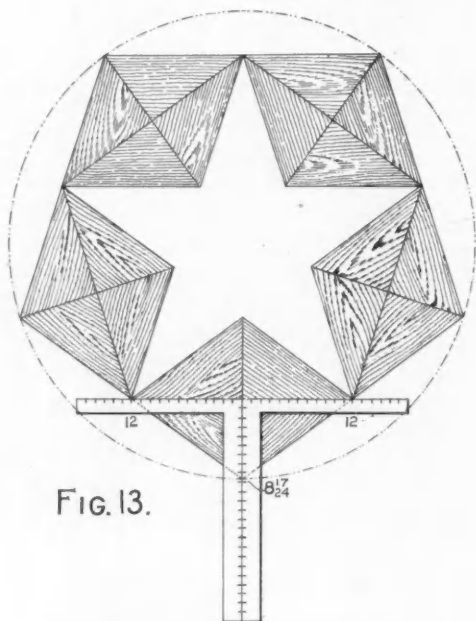
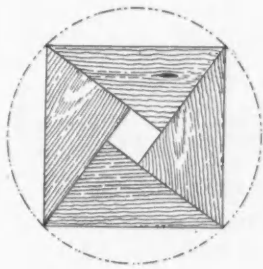
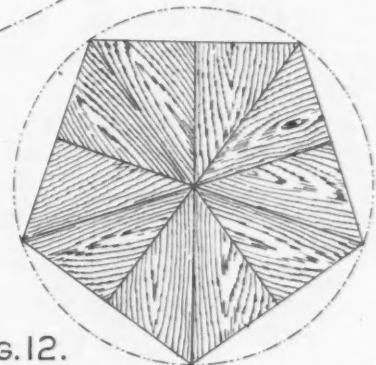

FIG. 13.
FIG. 11.
FIG. 12.
10. If four blocks the shape of that cut from the board be placed together, as shown in Fig. 11, they will form a perfect square frame. This would occur regardless of any miter used on the square as far as this figure is concerned, but if the figures on the square for any of the polygonal miters are used for cutting these triangular blocks, they will form when placed together, the figure that represents their miter as shown in Fig. 12. If they are laid with their short and long cuts matching each other, and with points touching, as shown in Fig. 13, they will still tell the part, though cast aside, that they helped to make. They may be arranged differently but the telltale remains of the part they once occupied.